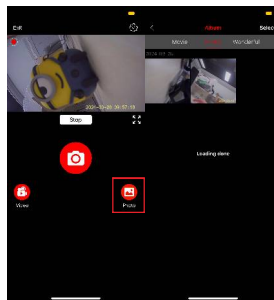

Figure 9
5.7 In the page for recording video at rear time, click [Recorder photo], it gets into photo list.(See Figure 9)